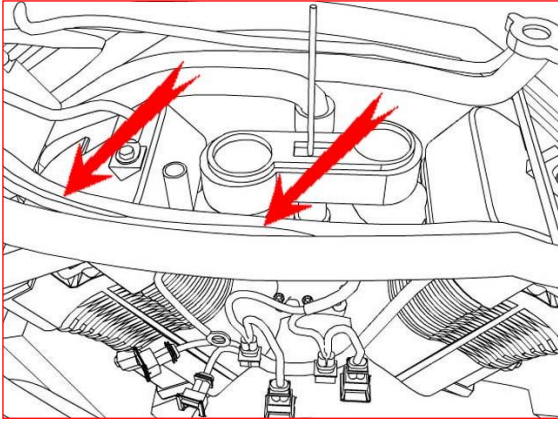

Figure 12
11. **Continue pulling the TFI harness through, routing it on top of the main (plastic braid covered) harness. Route the connectors inside the frame, down through the engine V and out where the stock injector harness is. (see figure 12)**